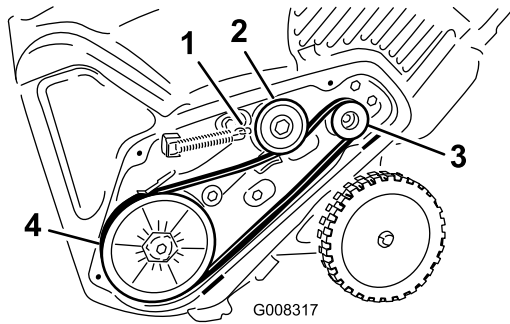

Figure 28
- Install the new drive belt, routing it as shown in Figure 28.
- Install the brake spring onto the idler arm (Figure 28).